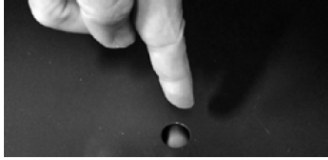

Fig. 8: Bottom plate/bottom display with round opening
- Lift and remove the shelf displays (including the price tag tracks) and bottom plates/bottom displays. Clean them before putting them back. Only lift out the bottom plates/bottom displays with the help of the round opening (see → Fig. 8).
- Insert the cleaned bottom plates/bottom displays with the help of the round opening (see → Fig. 8).